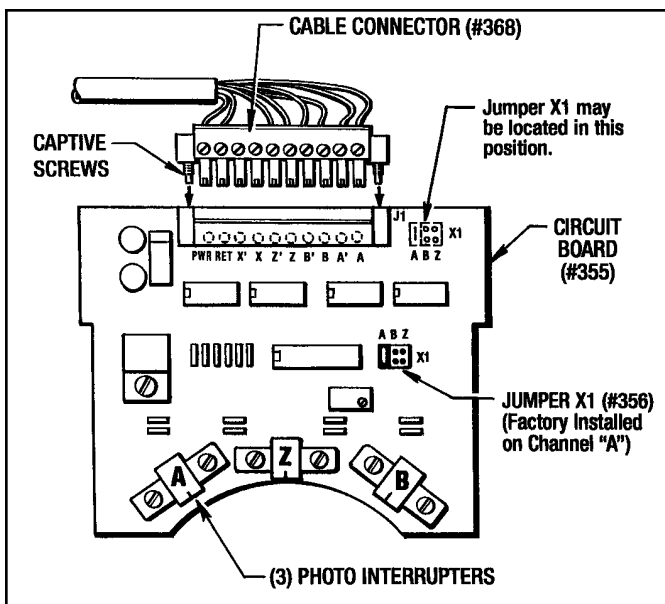

Figure 7.1 - Circuit Board Connector
1. Take out the (4) Screws (#225) and remove the Top Cover (#372) and the upper Gasket (#19) from the Upper Enclosure (#18). This gasket is reusable.
3. Loosen the (2) captive screws in the Cable Connector (#368) and unplug it from the Circuit Board (#355). (See Figure 7.1)